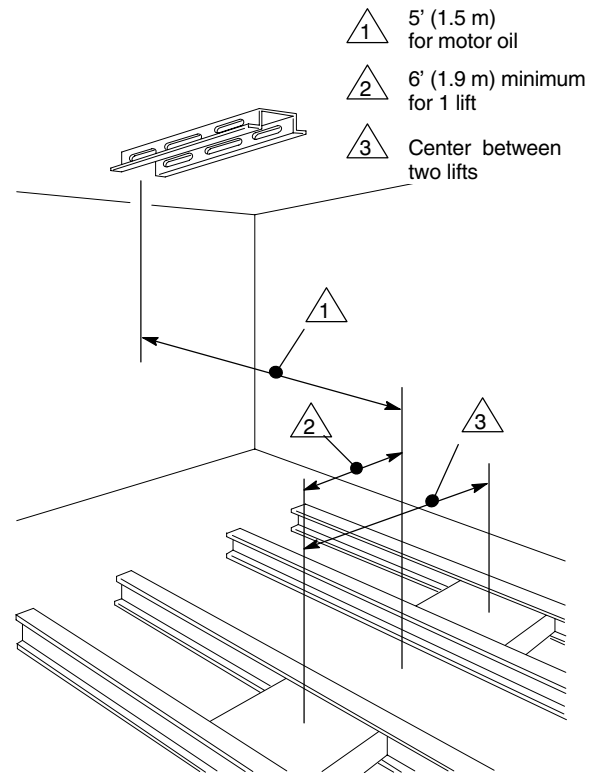

Fig. 2
- b. A reel bank mounted in a one-lift service bay should be at least 6 ft (1.9 m) from the center line of the lift. See Fig. 2.
- c. In a two-lift bay, mount the bank equal distance between the lifts. A bank of all motor oil reels should be mounted about 5 ft (1.5 m) from the center of the lift, toward the front of the lift rails. See Fig. 2.